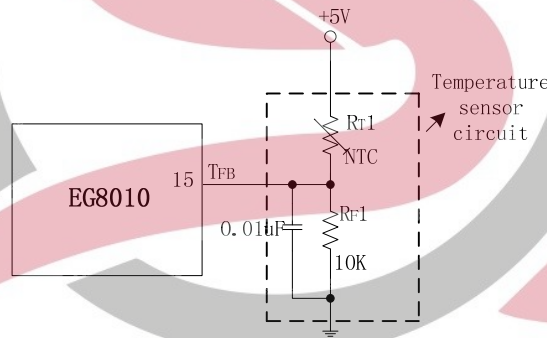

Figure 8.3a EG8010 Temperature detection circuit
Pin TFB measures inverter’s environment temperature. Its main functions are overtemperature protection detection and displaying the environment temperature onto 12832 LCD. For temperature detection circuit shown in figure 8.3a, NTC thermal resistor RT1 and measuring resistor RF1 form a simple voltage divider circuit. Voltage changes as the NTC resistance changes, and thus we can acquire the corresponding temperature. Thermal resistor has 10k resistance at 25°C(B=3380). Pin TFB’s overtemperature voltage sets at 4.3V. EG8010 will set the level of SPWMOUT1 to SPWMOUT4 at “0” or “1” and shut down all power MOSFET to decrease the voltage to zero depending on pin (9)PWMTYP’s setting. Once overtemperature protection activates, EG8010 will re-determine environment temperature. If pin TFB ‘s voltage is below 4.0V, EG8010 will turn off overtemperature protection and the inverter functions regularly. If overtemperature protection is not used, this pin needs to be grounded.